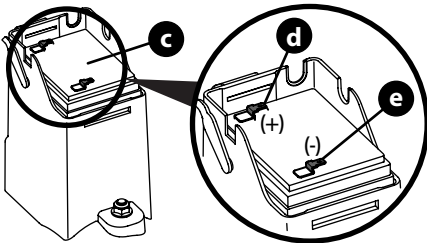

Figure 28
2. Installing the battery (Figure 28):